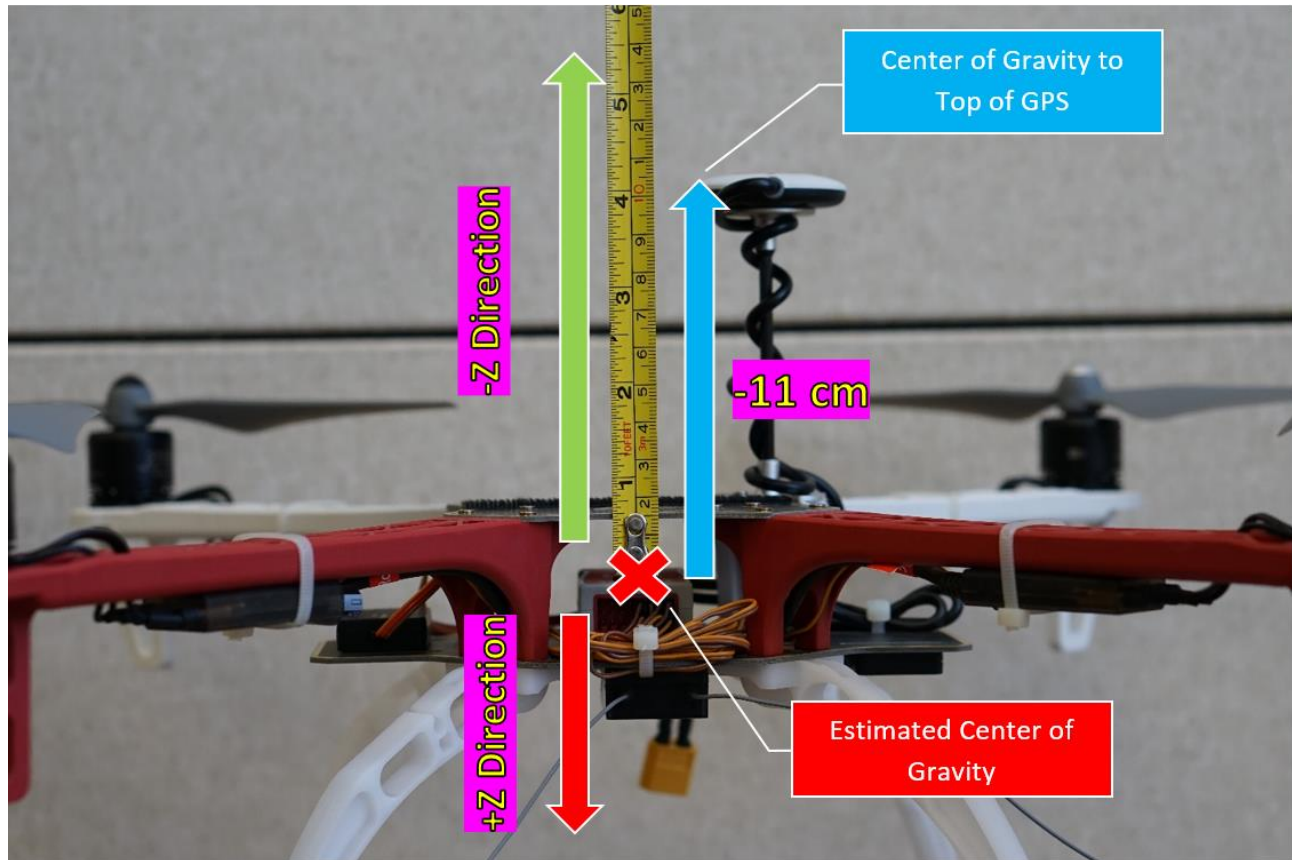

Figure 8: Measuring the Z component.
- a. Figure 8 displays an example of the quadcopter seen facing the front of the drone.